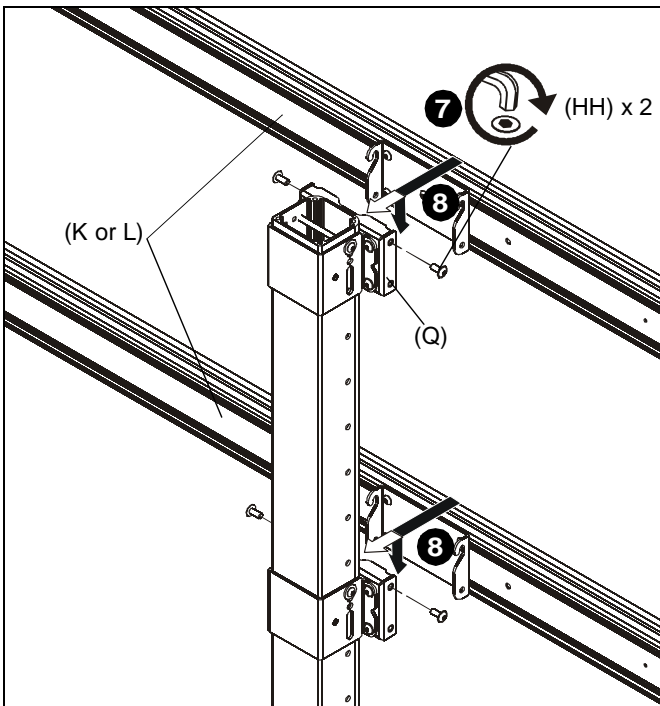
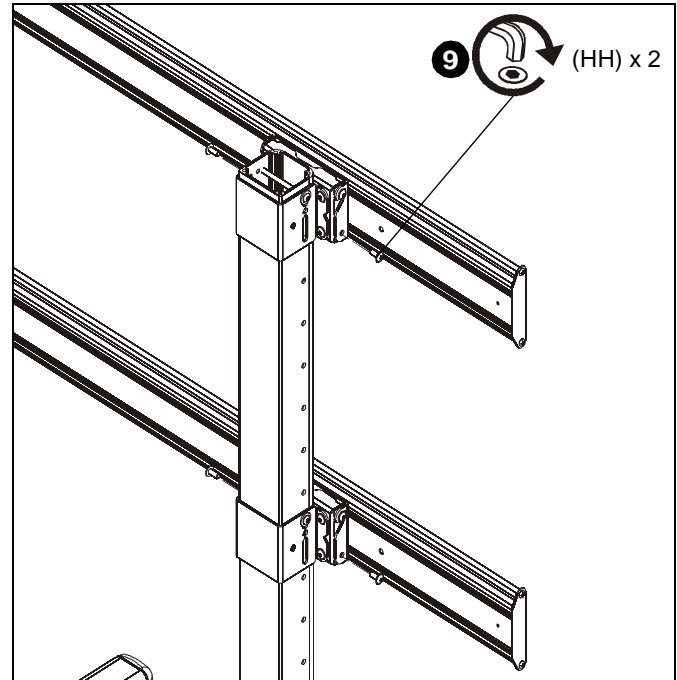

Figure 12
Figure 13
- Install two 5/16-18 x 3/4" button head flange screws (HH) into the top holes on each quick connect base (Q). (See Figure 12)
- Hang rails (K or L) into screws installed in previous step to quick connect bases (Q). (See Figure 12)
**IMPORTANT !** : If installing the triple display rail (L), install rail to left and center columns so that add-on rail can be installed to right column. See Add-On Rail Installation section for details.
- Install two 5/16-18 x 3/4" button head flange screws (HH) into the lower holes on each quick connect base (Q) to secure rails to quick connect bases. (See Figure 13)
- Tighten all 5/16-18 x 3/4" button head flange screws (HH).